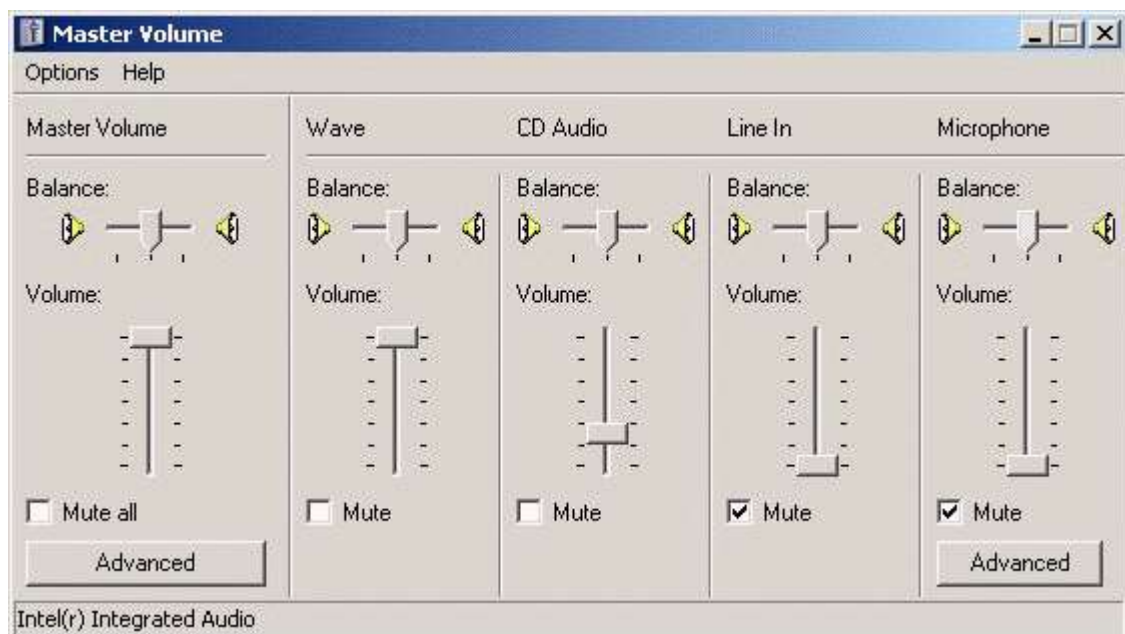

Figure 2.8 Typical setup of a soundcard output mixer in Windows XP
- 1) In '**Audio device setup**' dialog, click the button '**Control panel**' to open the Windows '**Master Volume**' dialog box, which is shown on Fig. 2.8.
- 3) Mute Line In and Mic channels in dialog '**Master Volume**' (Fig. 2.8).